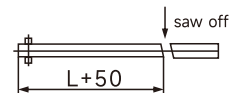

Figure 33
(2)As shown in Figure 33, after measuring the length of (L+50) mm at the rivet pin end of the extended shaft, cut off the excess part.